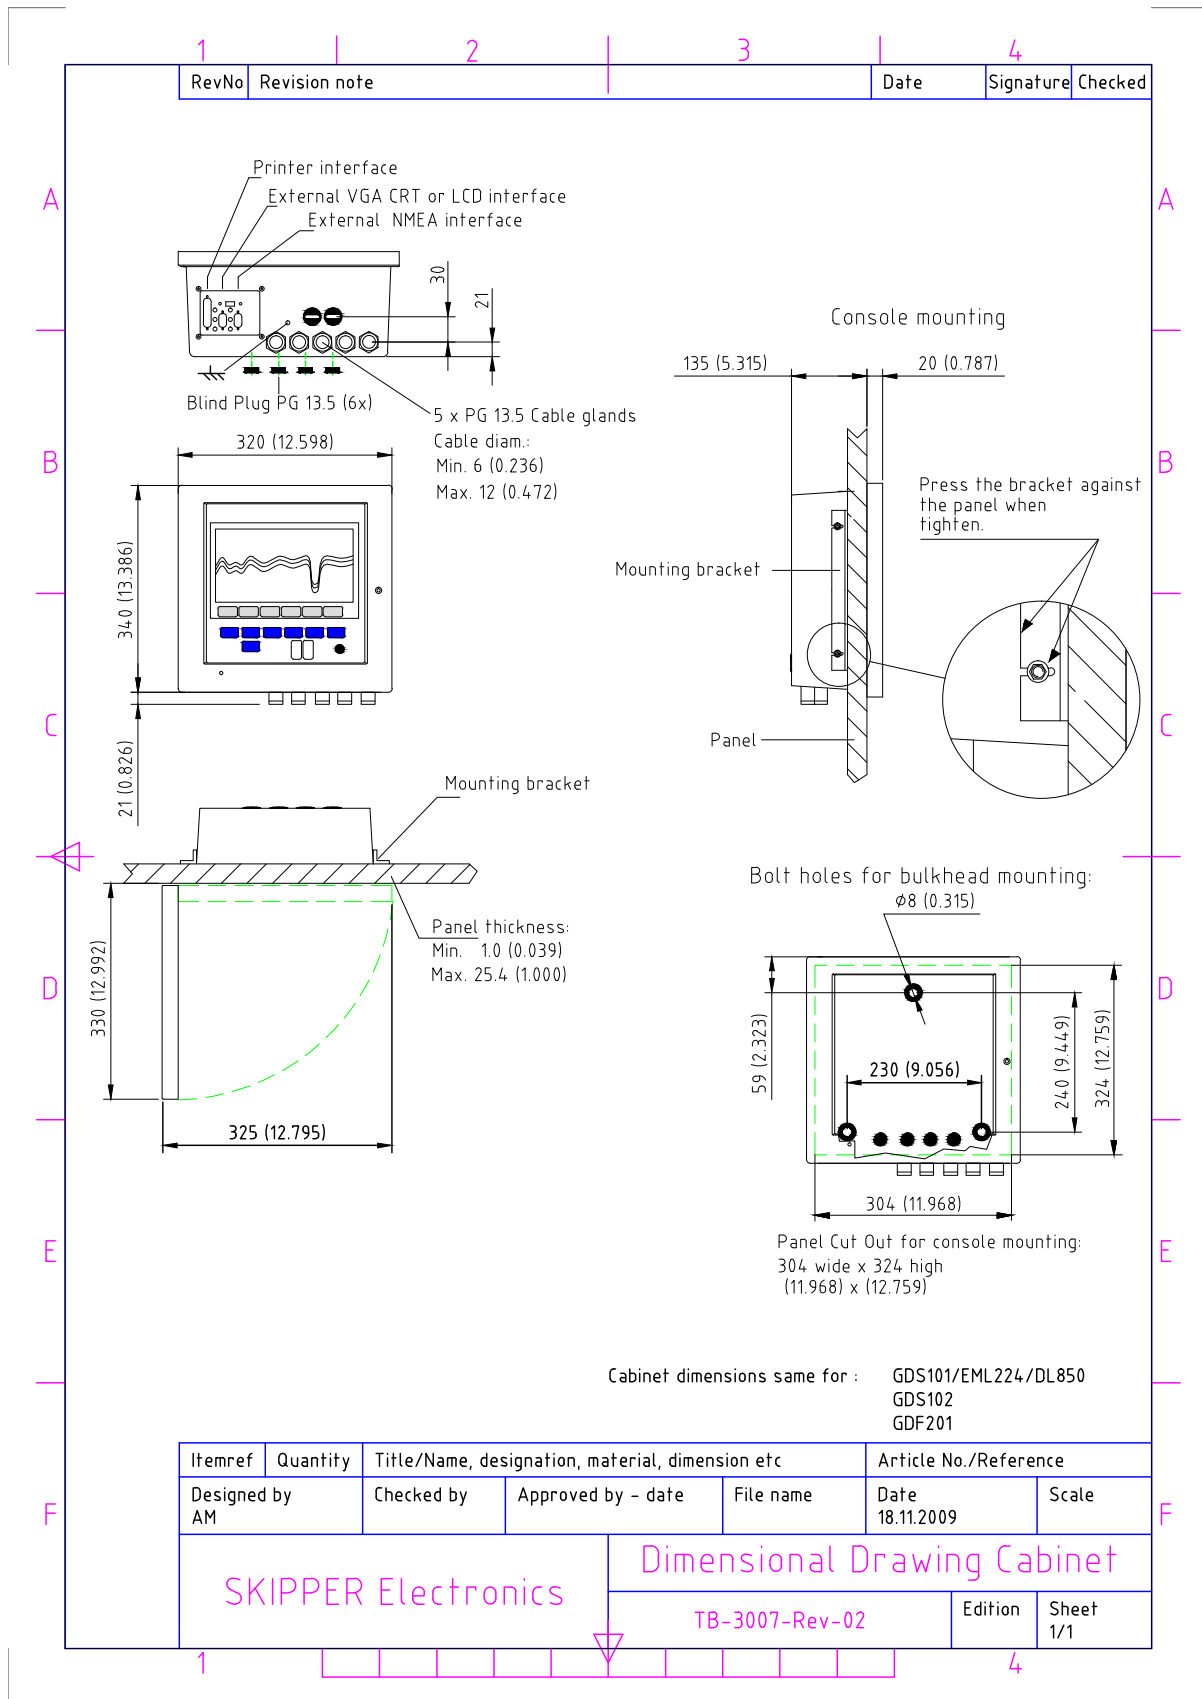

Fig. 10.7. Cabinet Dimensions
- Fig. 10.7. Dimensional drawing of operator unit. See “Dimensional Drawing Cabinet” on page 74.